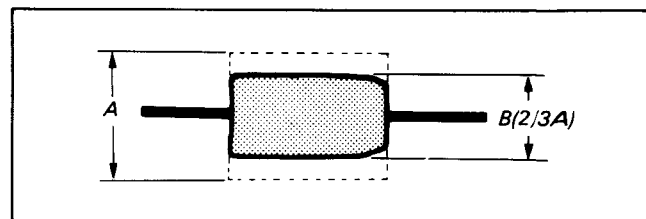

Fig. 8-81.
- 4) Set the SEL switch of the track shift & monitor jig to ON, then turn the track shift knob until the RF waveform amplitude is 2/3. (Fig. 8-81)